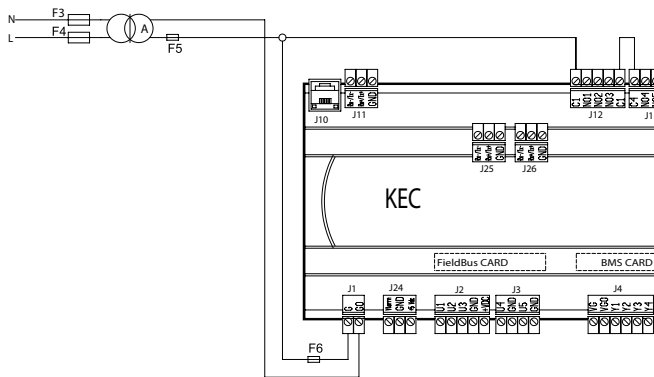

Fig. 2.f
The power supply, to be provided by the user, is 24 Vac (+10/-15%) 50/60 Hz on terminal J1 (G, G0). 24 Vac must also be supplied to the common connectors C1 and C4 on relay outputs J12 and J13, as shown in Fig. 2.f.
- the 230 Vac/24 Vac transformer, to be provided by the user, that powers the controller and the safety extra low voltage loads connected, must feature double insulation of 100 VA; protection class II in accordance with EN 61558 for CE versions (pumps P/Ns KEC***DH*0) and class II UL for UL versions (pumps P/Ns KEC***UH*0); insulation class F or higher; 4 A fast-blow (type F) protection fuses on the primary, on the line and neutral (F3, F4 in Figure 2.f), 4 A fast-blow (type F) fuse on the secondary (F5 in Figure 2.f);